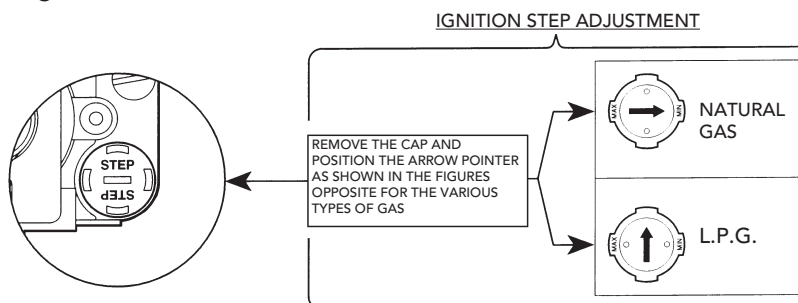

Fig. 6
- 2 Remove the small safety cap **3** from the gas valve (fig. 6). Using a small screwdriver, adjust the ignition "STEP" for the desired gas (G20-G25 or G30-G31); then replace the hood.